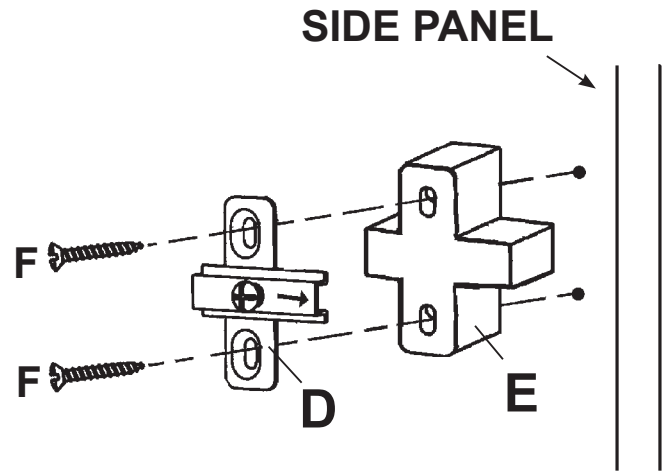

FIG. 3B
The Side Panels of the hutch units are predrilled for the hinge location (see compatibility chart in step 2 for proper location). Attach two Hinge Plates (D) with Hinge Spacers (E), with the longer arm facing out (arrow on the plate points out), using Screw (F) in the holes. See FIGURE 3B. Repeat for the other side.